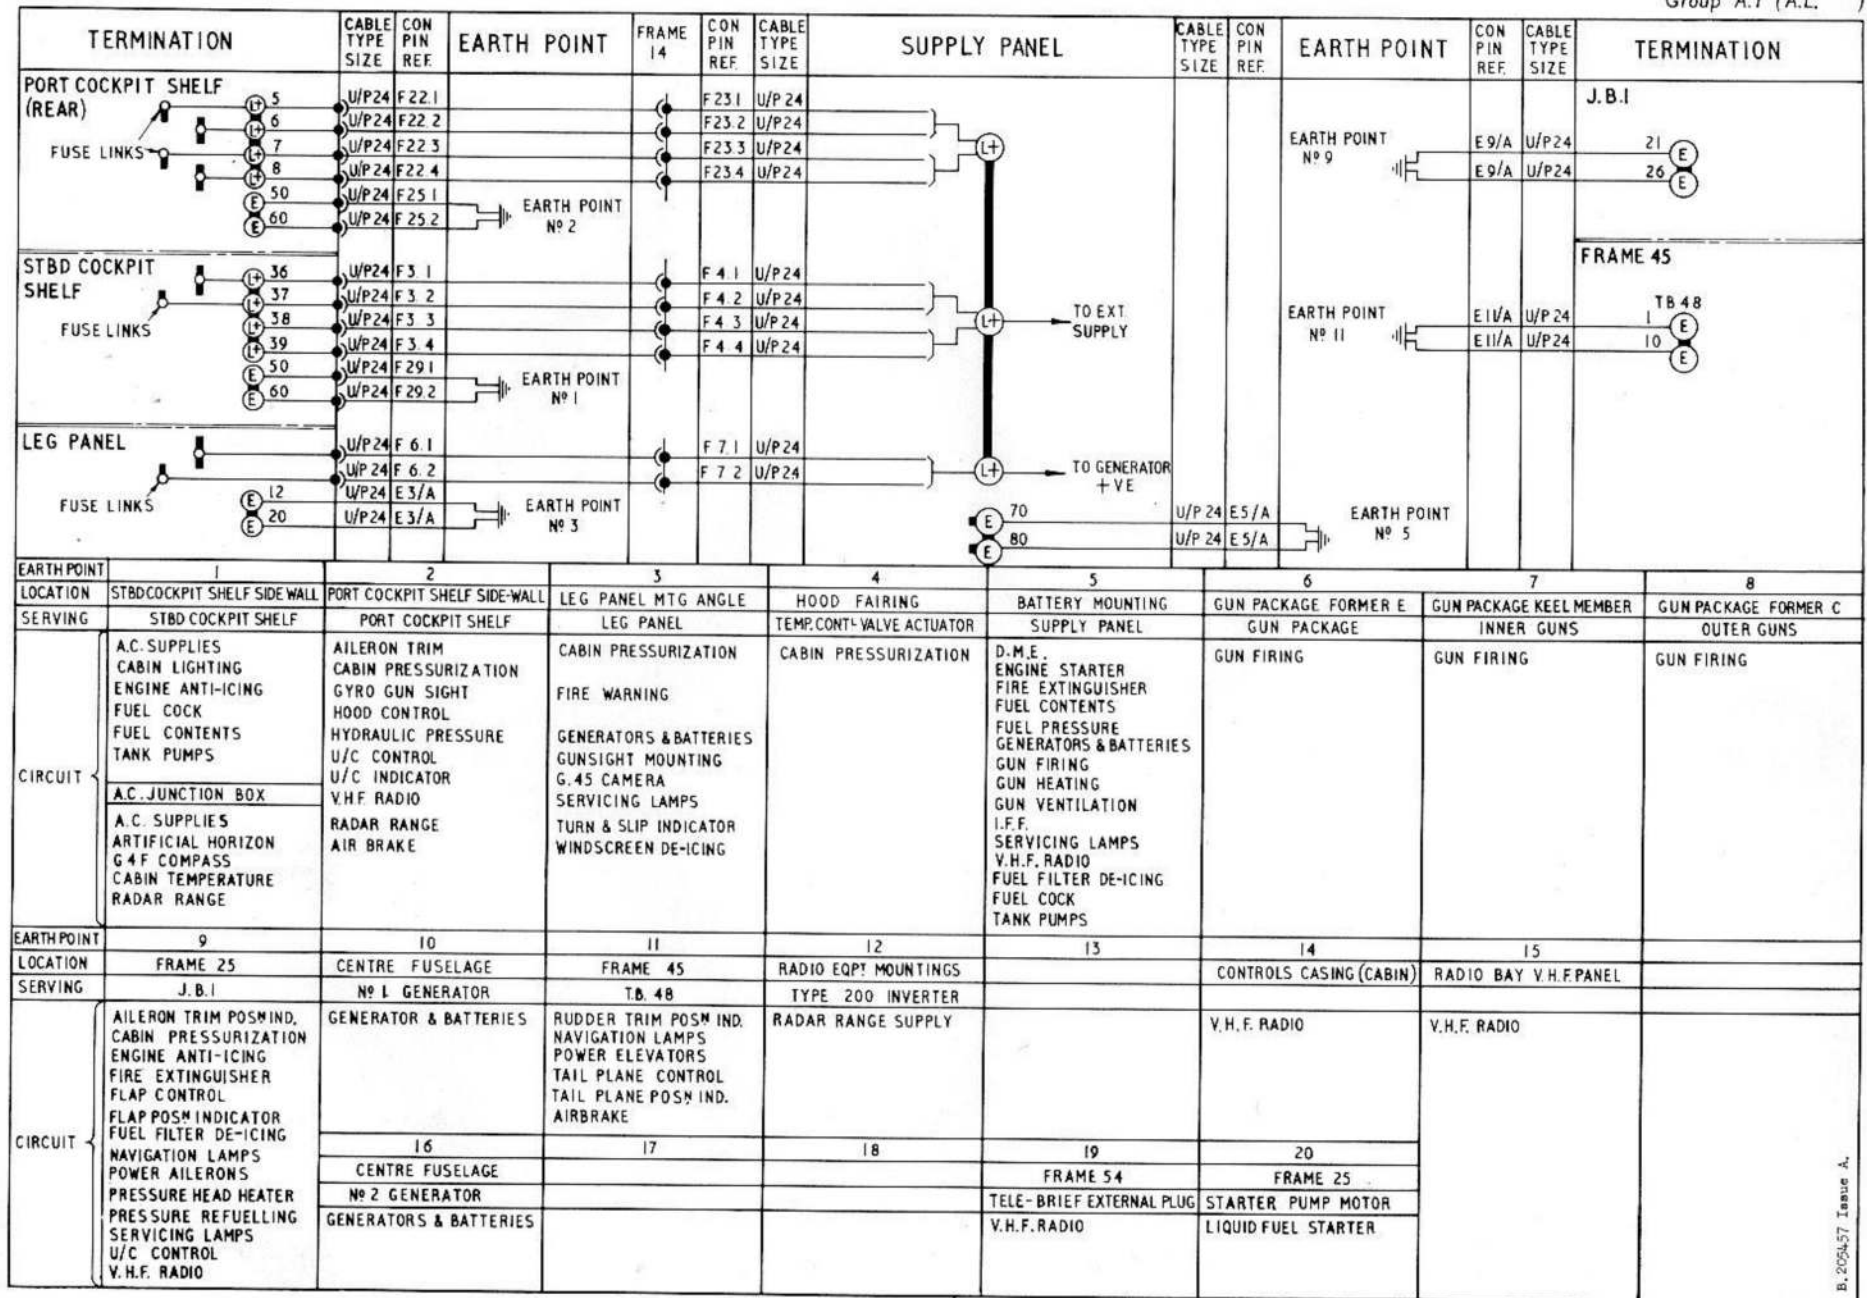

FIG. 1. SUPPLY AND EARTH ROUTING CHART
earth return connections are restricted and taken to a number of stud type earth points, which are shown on the cable assembly layout, (Group A.3, fig.1) and listed on the supply and earth routing chart, fig.1 of this group.
3. The generators are mounted on, and driven by the auxiliary gearbox situated in the engine bay, and their control equipment is mounted on a panel located on the starboard side of the radio bay. The batteries are mounted on a platform also located in the radio bay. The supply from the generators and batteries to the fuse bus-bars is shown, together with the earth return points, on fig.1 of this group.
26. Apart from the guns, engine starter, inverters, suppressors and the V.H.F. and I.F.F. radio sets, which are earthed internally or adjacent to their mountings, all the other earth leads are grouped, for ease of servicing and insulation resistance testing, and connected to the aircraft structure at a number of stud-type main earth points. All the main earth points are numbered and may be located on the cable assembly layout in Group A.3 and on the supply and earth routing chart (fig.1) of this group. When re-fitting earth leads, care must be taken to ensure that the surfaces in contact are perfectly clean and in particular, free from grease and paint. Completed assemblies should be protected against corrosion by applying one coat of blue oil-base paint to D.T.D. Spec.62B.